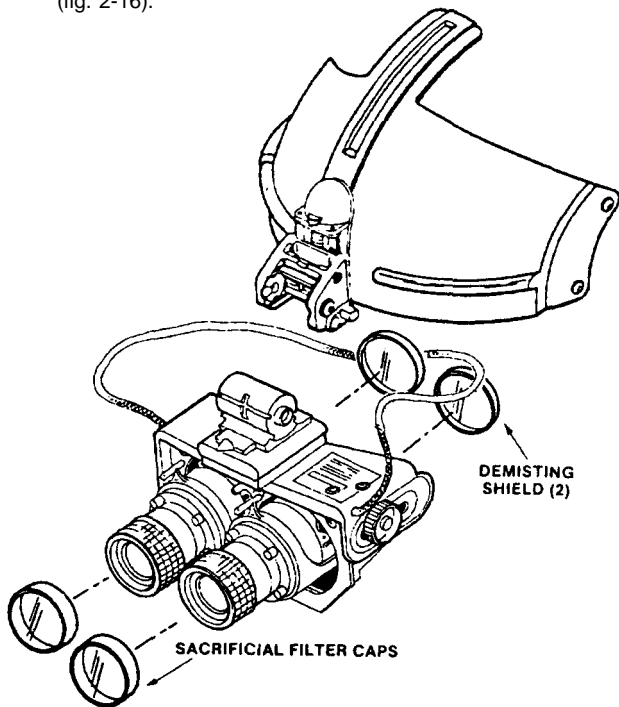

Figure 2-16. Demisting Shield and Sacrificial Filter Caps Installation (GM-6(V)1 with AN/PVS-5C binocular assembly shown (GM-6(V)2 is similar)).
a. Installation and Removal of Demisting Shields. To install the demisting shields follow the following procedures (fig. 2-16).
- (1). Remove sacrificial filter caps from NVG carrying case. Snap them on the objective lenses. Be careful not to smudge the lenses and the sacrificial filter caps (fig. 2-16).
(2) Remove sacrificial filter caps by grasping them and pulling them off the objective lenses.
(3) Place sacrificial filter caps in the NVG carrying case.